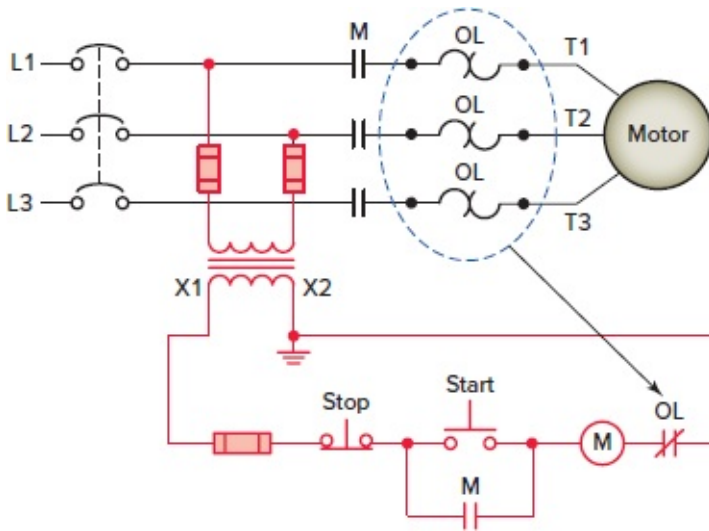

Figure 6-42 Thermal overload relay circuit operation.
With a thermal overload relay, the same current that goes to the motor coils (causing the motor to heat) also passes through the thermal elements of the overload relays. The thermal element is connected mechanically to an NC overload (OL) contact (Figure 6-42). When an excessive current flows through the thermal element for a long enough time period, the contact is tripped open. This contact is connected in series with the control coil of the starter. The starter coil is de-energized when the contact opens. In turn, the starter's main power contacts open to disconnect the motor from the line.